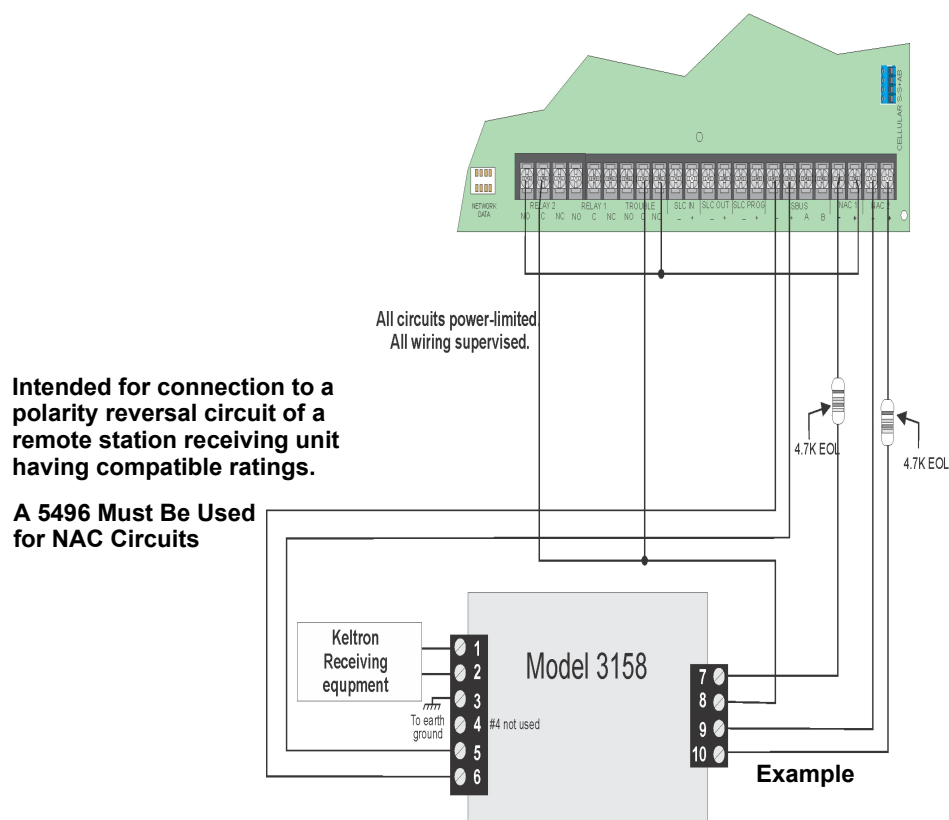

Figure 4.47 Keltron 3158 Connection to Control Panel
1. Wire the 3158 to the control panel as shown in the connection list and Figure 4.47.